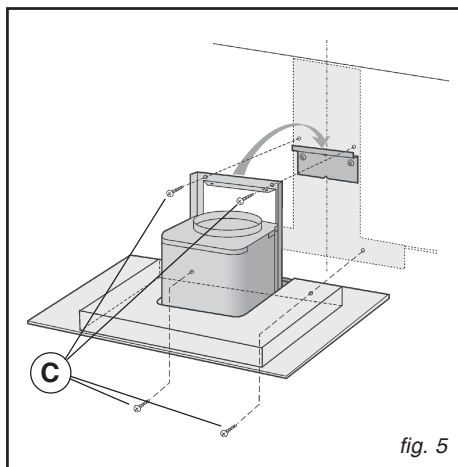

fig. 5
- Hang the hood on the bracket (Fig. 5). Adjust the horizontal position moving the hood to the right or left so that it is aligned with the wall units.
- When adjustment has been completed, without removing the hood, mark the other 4 holes to be drilled (C) in the wall. Remove the hood and drill the holes marked (8 mm diameter). Then use the 4 screw anchors and the 4 screws provided for final fixing.